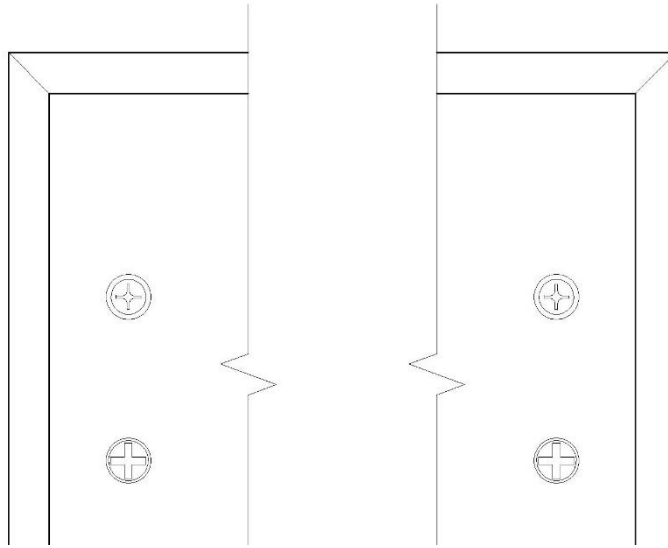

Figure B.3
- Once both hanging brackets have been installed, the phillips head adjustment screws should be visible through the holes in the back panel. (See Figure B.3) The adjustment screws will be used to level the box after it has been set on the wall rail.